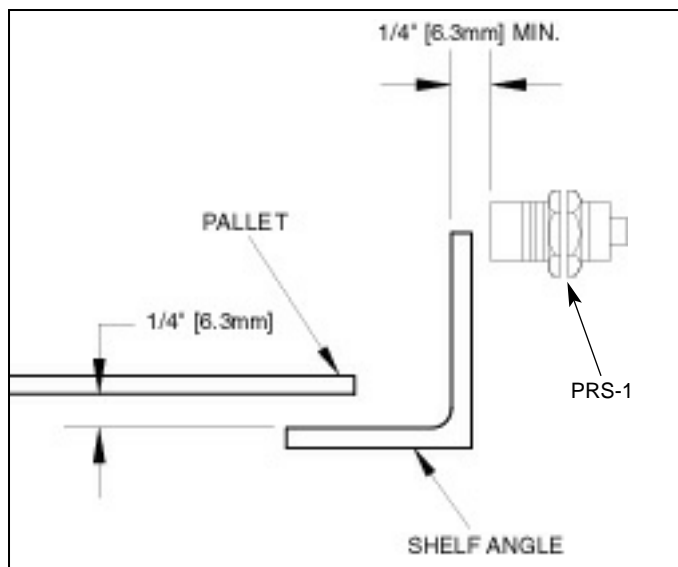

Figure 2.3 PROXIMITY SWITCH PRS-1.
2.1.3.1 PRS-1 is located on the side of the Accumulator and senses the shelf angle in order to stop the Accumulator just before it reaches the pallet. Adjust PRS-1 switch so that shelf angle is stopped when top of angle is 1/4" [6.3mm] below bottom of pallet or as close as possible to provide smooth pallet pick-up. See figure 2.3.